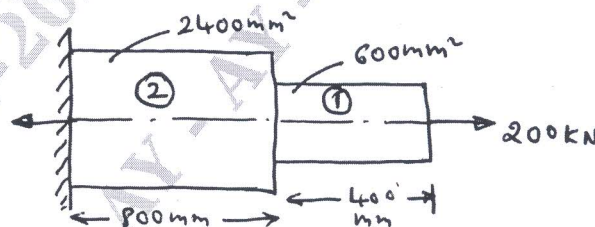

Fig.Q.3(b)
- b. A stepped bar shown in Fig.Q.3(b). Determine the nodal displacement and stresses at each node. Take $E = 2 \times 10^5 \text{ N/mm}^2$.